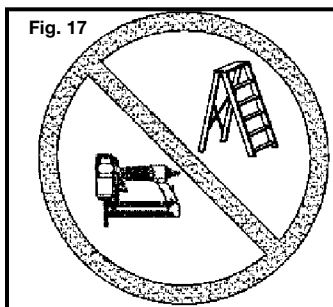

Fig. 17
**27. FOR TOOLS USED IN CONTACT ACTUATION MODE, Do not use on scaffoldings or ladders** or for tasks in which changing location involves the use of scaffoldings, stairs, ladders, and the like. Do not use for specific tasks such as closing boxes or crates or fitting transportation safety systems on vehicles and wagons. Fig. 17.